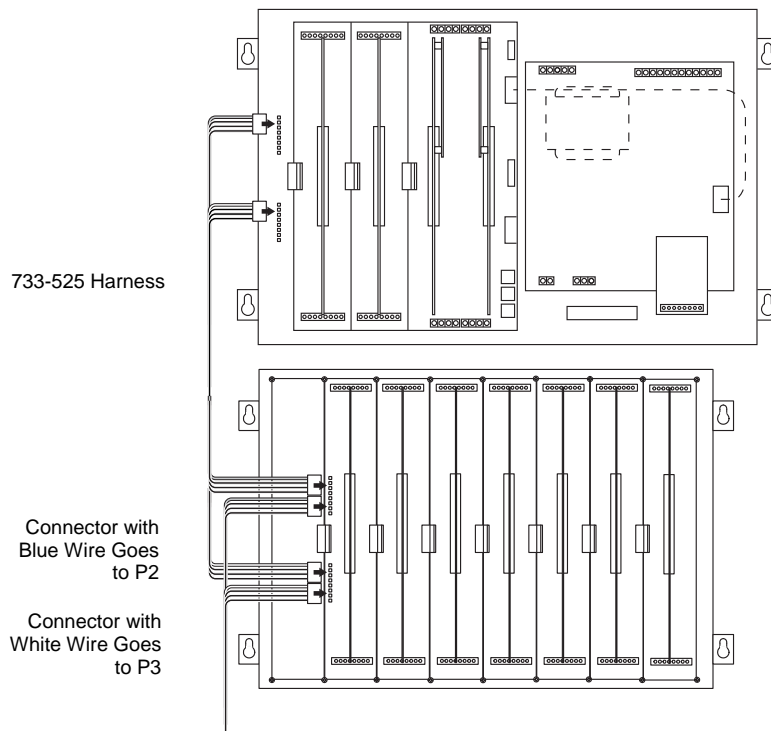

Figure 2-6. Power and Communication Wiring for Motherboards (note that there are limitations of where motherboards can be placed – see next section)
Panels with legacy motherboards in the expansion bay require some non-PDI connections. If you need to connect a harness to a motherboard, refer to Figure 2-6 and follow these steps. Make sure to route the power and communication wiring on the left side of the bay.
- The CPU motherboard generates the 8V supply required for 4100A motherboards. It also has the 4100A style Molex connectors to which a harness can be fitted as in Figure 2-6.